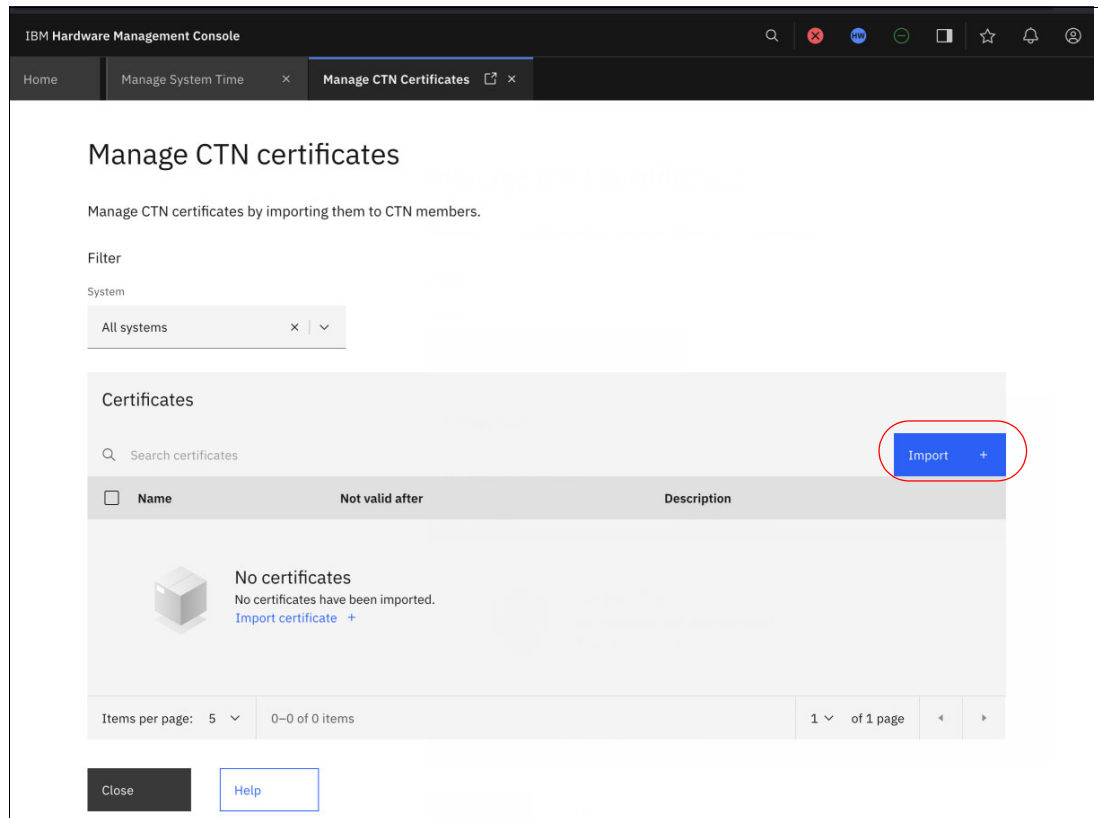

Figure 4-69 Manage CTN Certificates wizard
1. Access the Manage CTN Certificates menu from the Manage System Time task (Figure 4-69 on page 106).